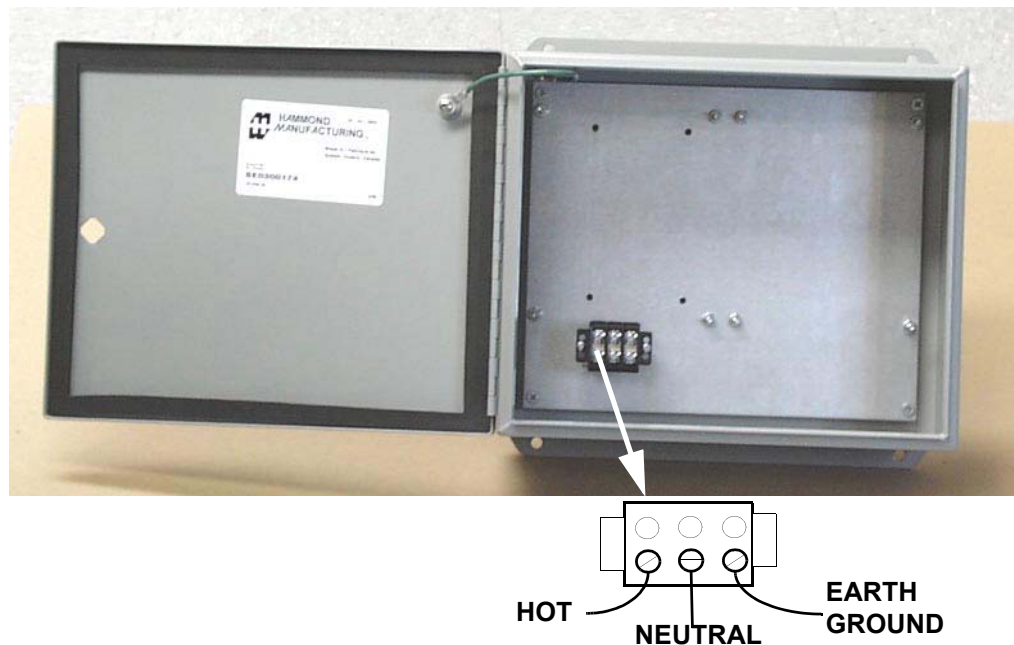

Figure 2: Power Wiring Connections
6. Connect the power wiring to the terminal block as shown in *Figure 2*.